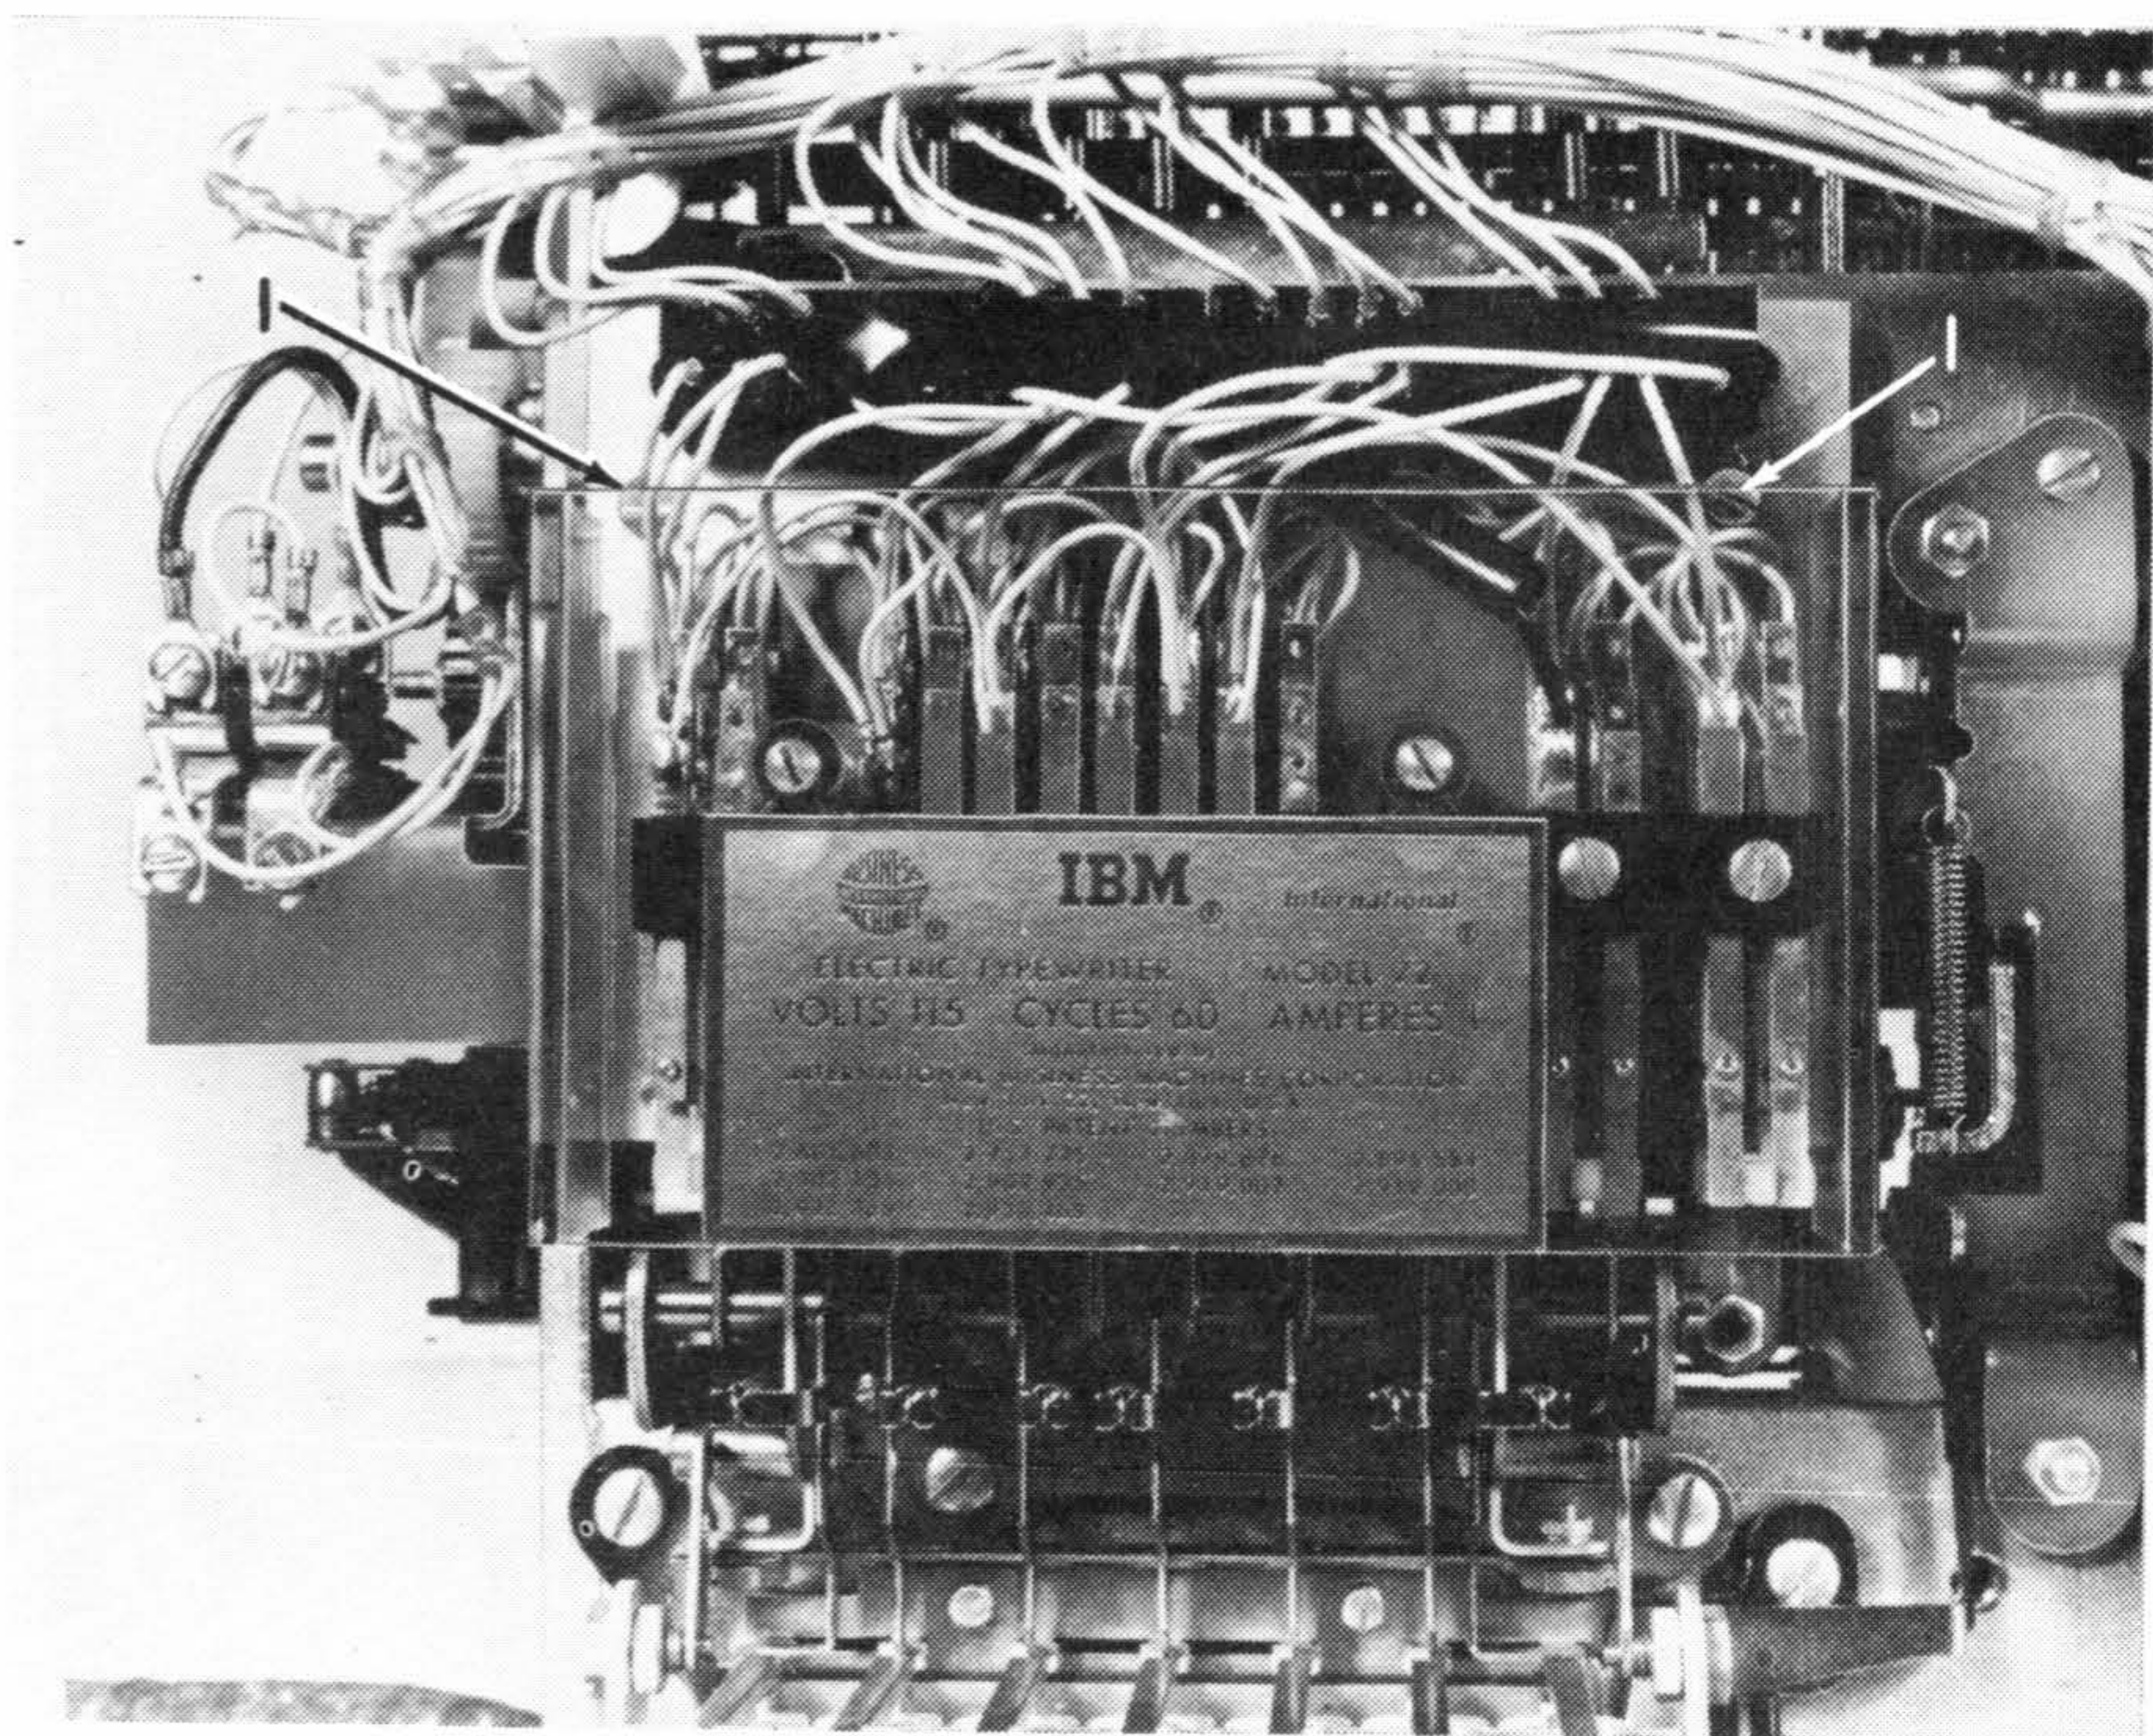

Figure 29. Differential Plate Removal
5. Remove the two screws (#1, Figure 29) that hold the contact plate to the frame. Remove the contact assembly, holding it to the front with a rubber band.